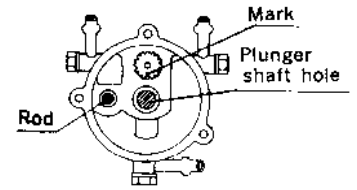

Fig. 92 Disassembled oil pump
H. Meshing the plunger gear with the distributor gear. (Fig. 92)
- 1) Match the timing pin mark on the distributor gear with the center of the plunger shaft hole. (Fig. 92)